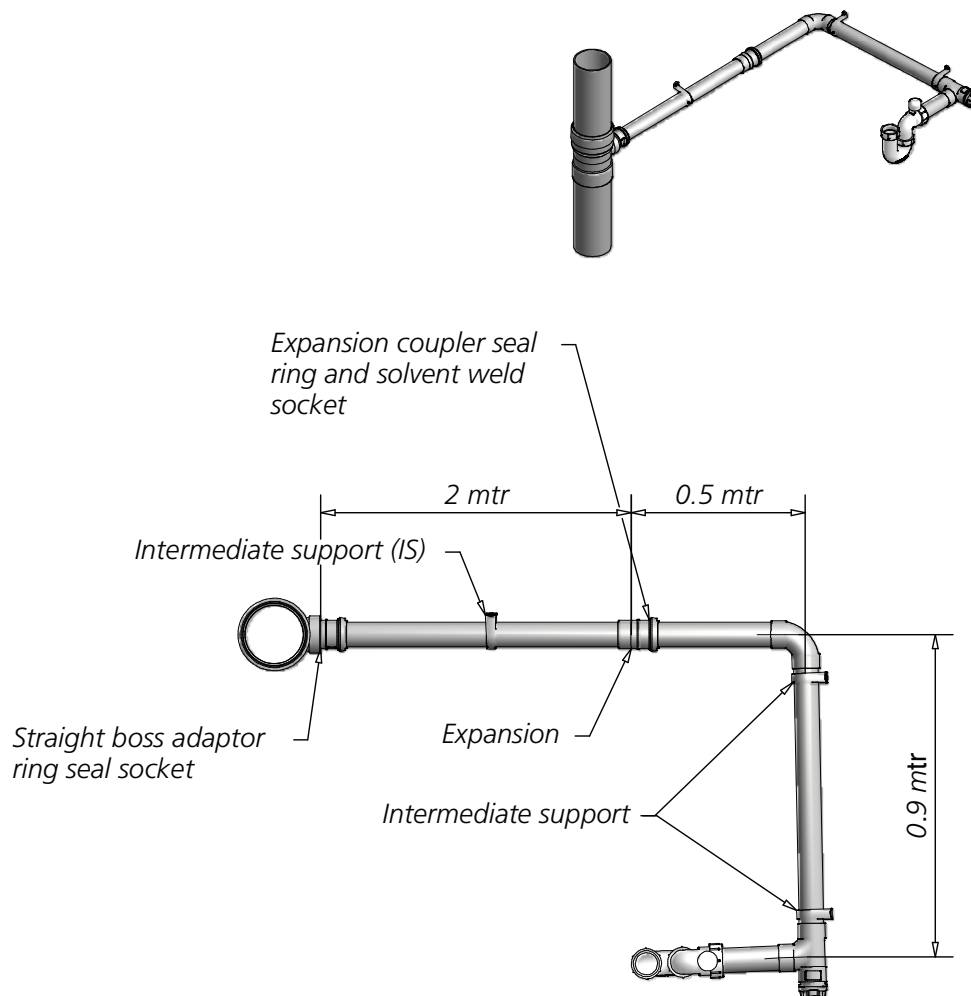

Fig 2
- 2) At spacing's no greater than 2m for pipework 50mm and below (fig 2)